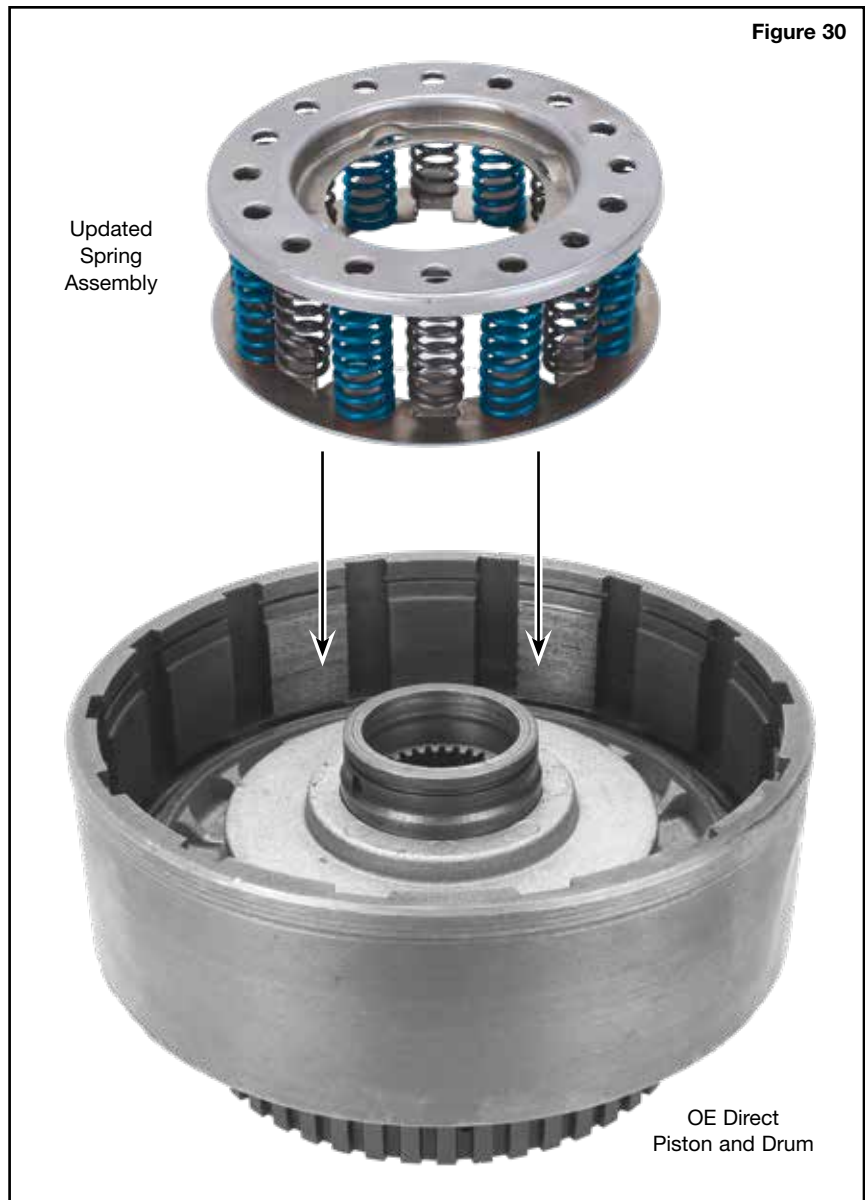

Figure 30
- d. Install spring assembly onto direct piston (**Figure 30**).